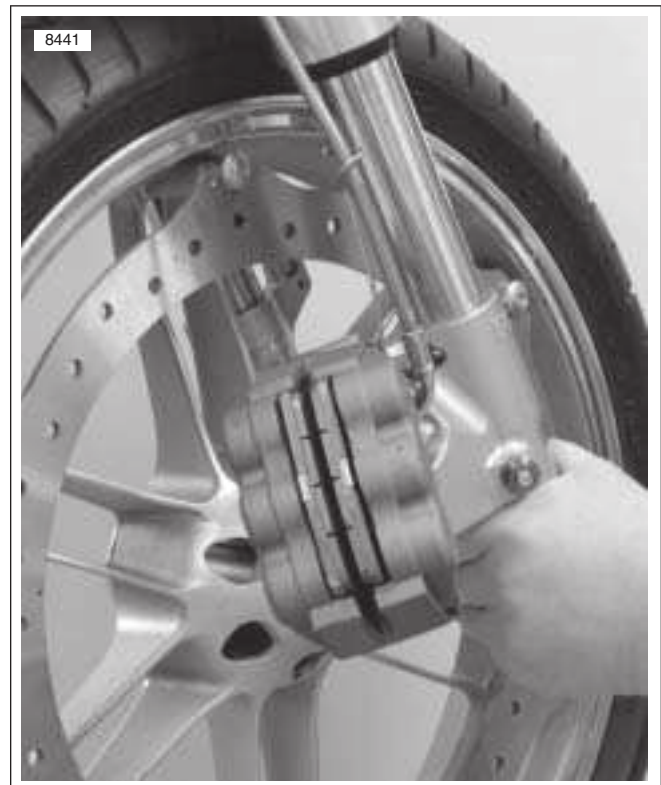

Figure 2-6. Front Wheel Removal
5. See Figure 2-6. Raise the wheel up until the rotor clears the caliper and rotate the fork leg counterclockwise allowing wheel clearance for removal.